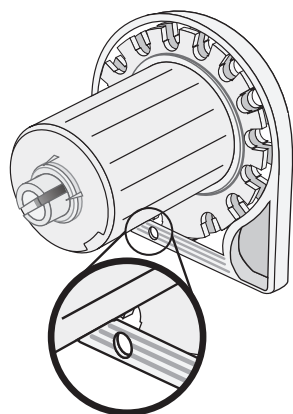

Figure 5
1. Use  $\frac{1}{8}$ " bit to drill pilot hole through one of two (2) indents near bottom of Clutch (Fig. 5).